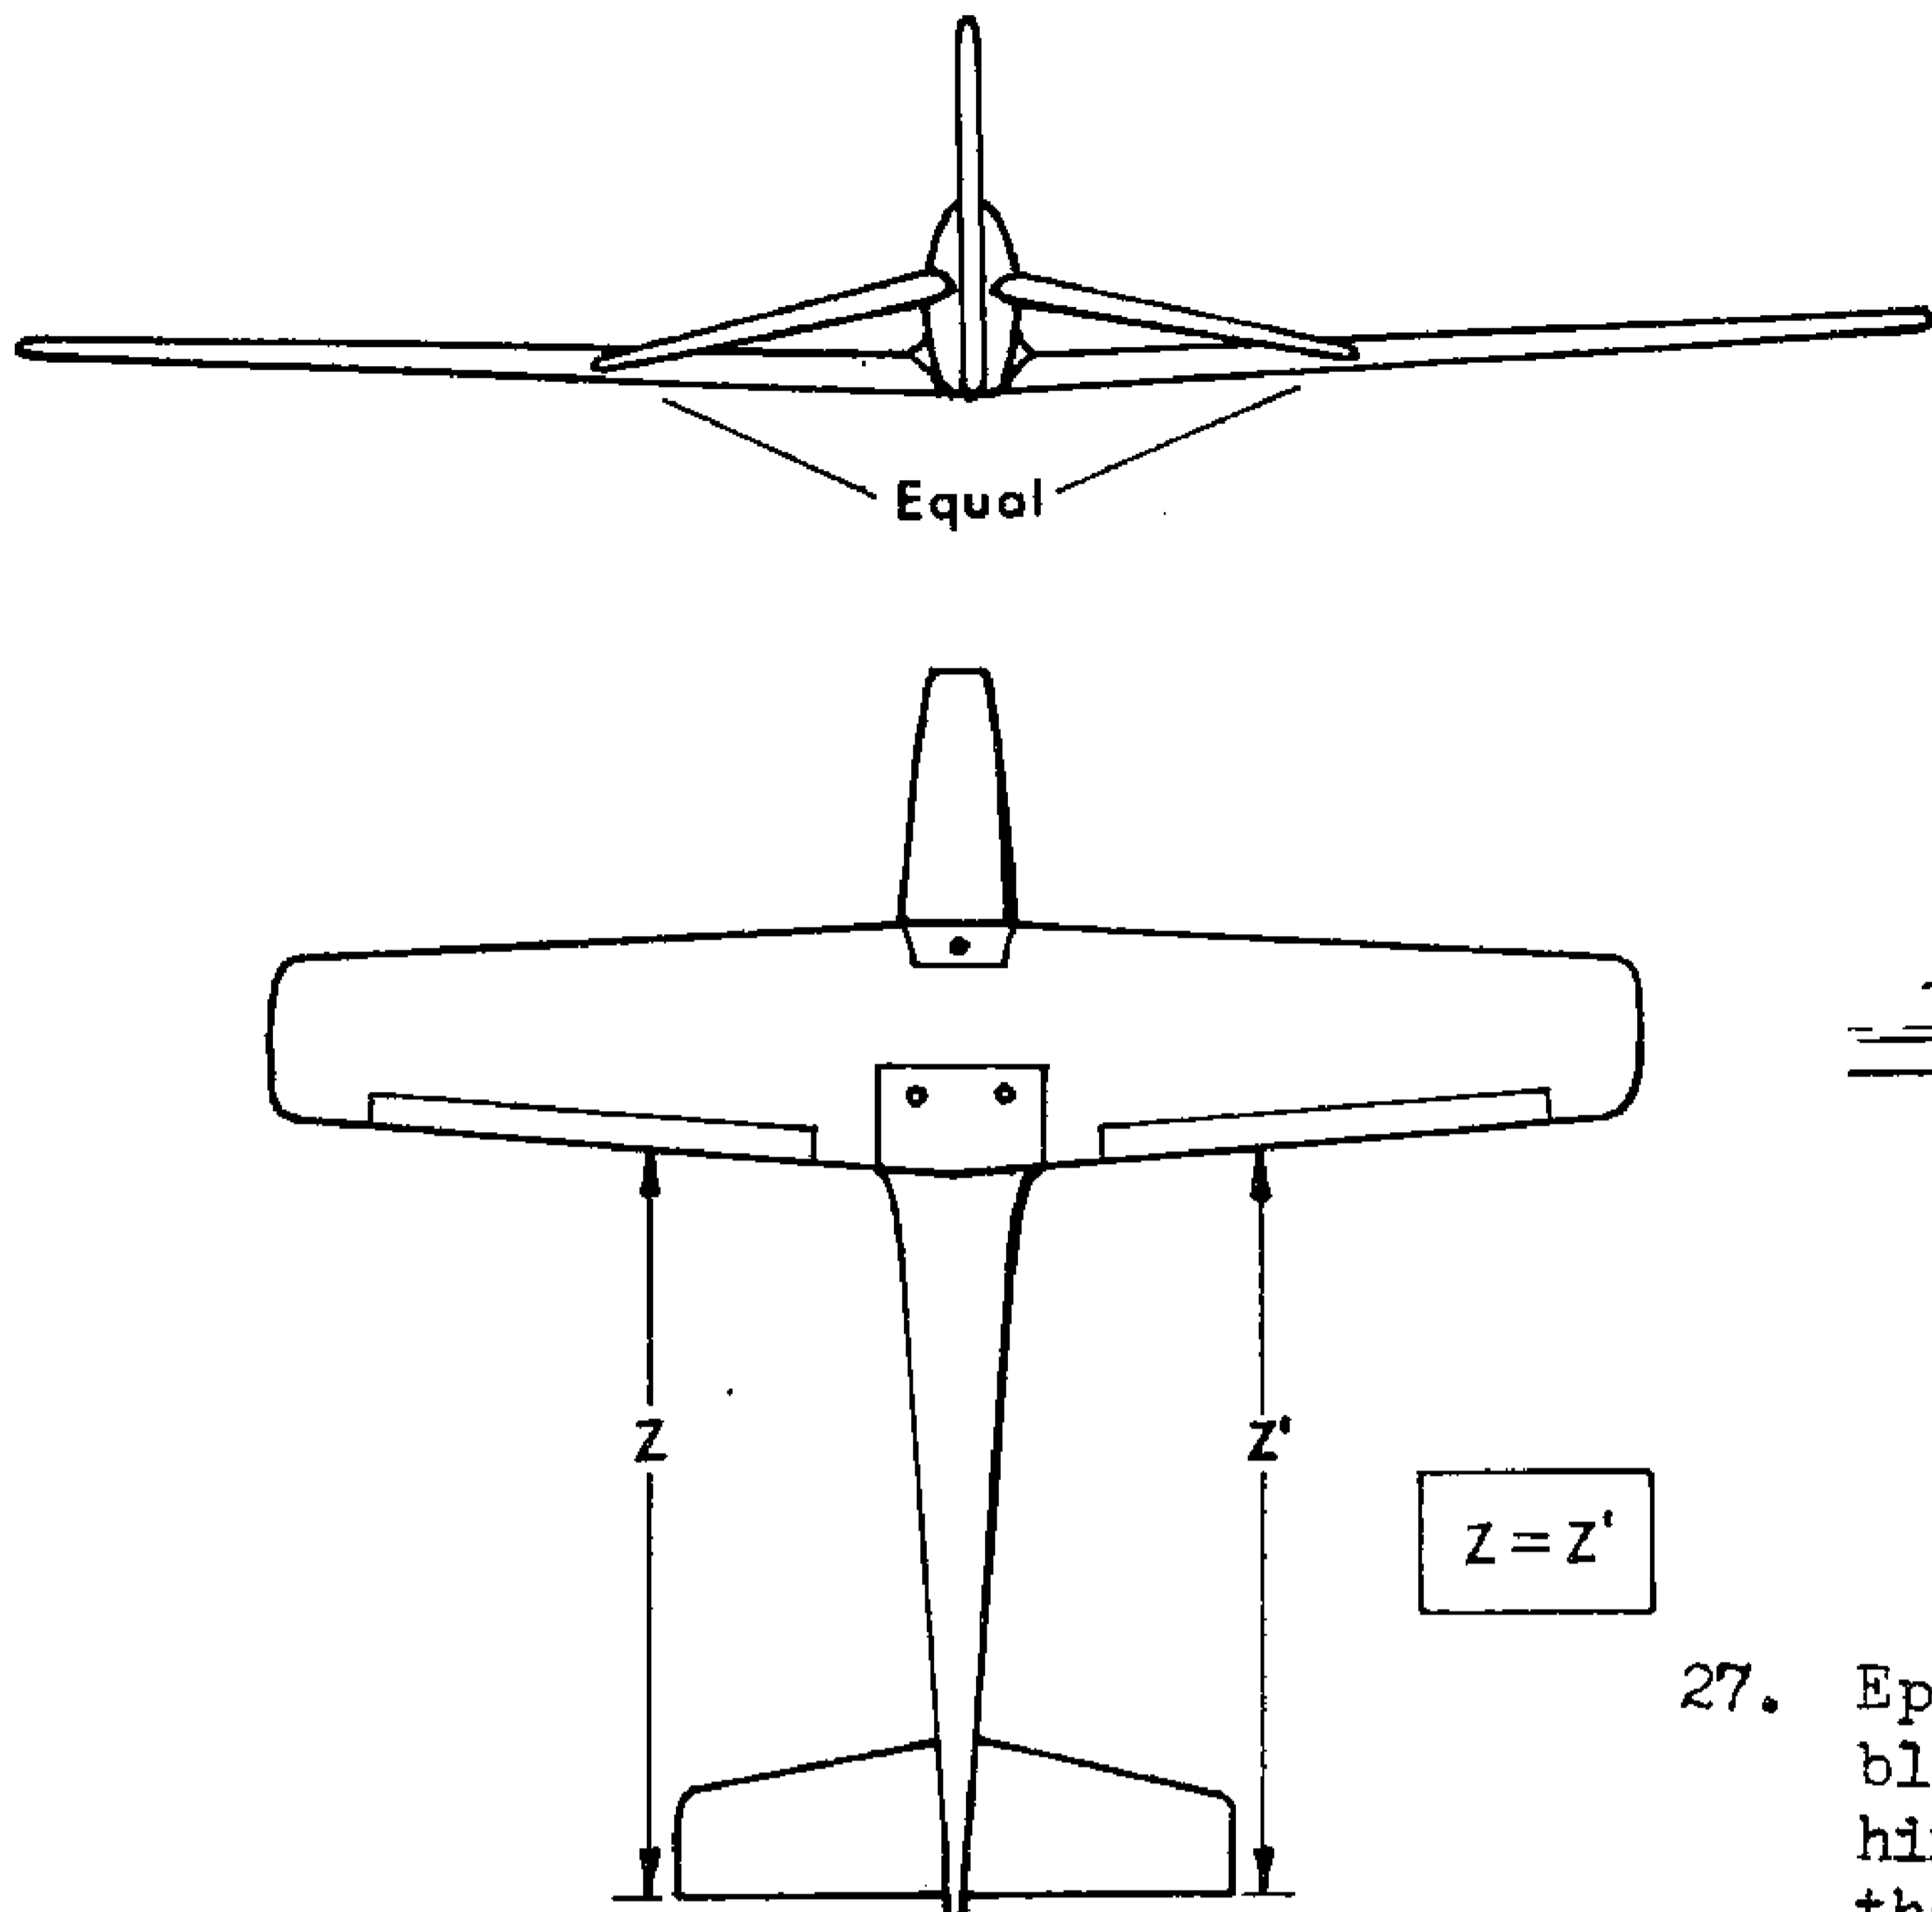

Fig. 26
26. Slide the stabilizer into the fuselage opening and align it with the wing as shown in figure 26. Spot glue it in place with 5-minute epoxy. When the epoxy has cured, check the stab again to be certain that it is still aligned. If it is, glue securely in place inside the fuselage with slow-drying epoxy. Make a fillet to fair the stab into the fuselage using a mixture of 5-minute epoxy and micro-balloons, working fairly quickly and smoothing the fillet with your finger dipped in water.